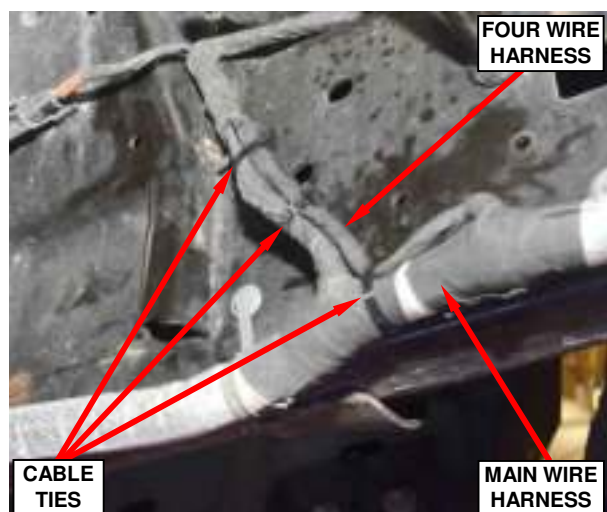

Figure 7 – Secure With Cable Ties
11. Secure the four wire harness to the main wire harness with cable ties (Figure 7).